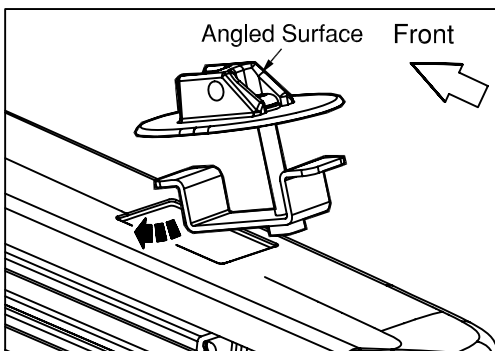

Fig. 4
5. Rotate the assembled Base into the rear stake pocket hole. The rear locations must be oriented so the angled surface is facing the rear of the vehicle. (See Fig. 4) Hand tighten only.